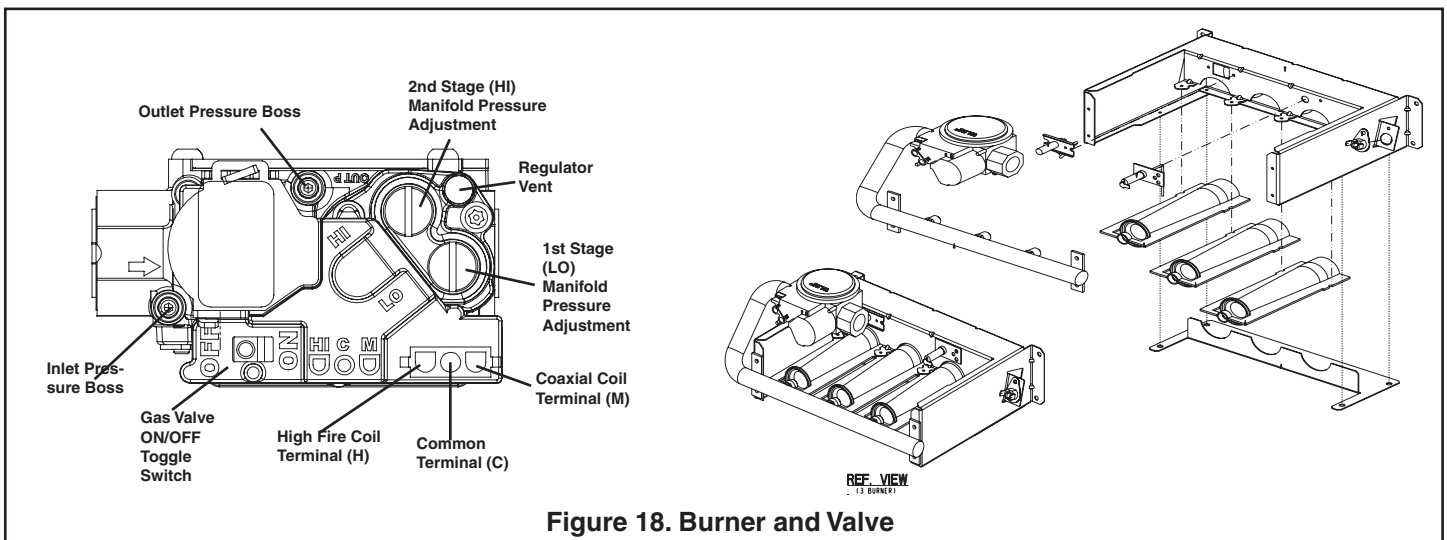

Figure 18. Burner and Valve
- b. Remove the slot screw on top of the gas valve for 1st stage manifold pressure adjustment. Remove slot screw on outlet side for 2nd stage adjustment (See Figure 18).